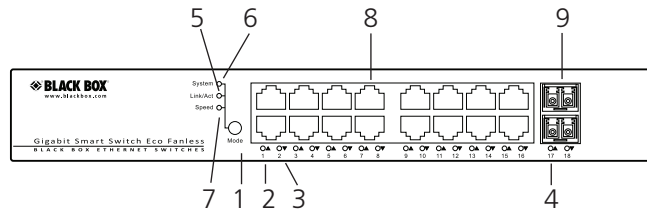

Figure 2-1. LGB2118A front panel.
Figures 2-1 ad 2-2 show the front and back panels of the switch. Table 2-2 describes its components. Table 2-3 describes the LEDs in detail.
*Not shown in Figure 2-1 or 2-2.